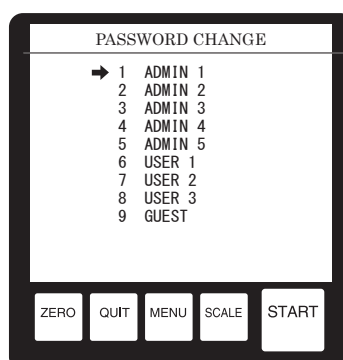
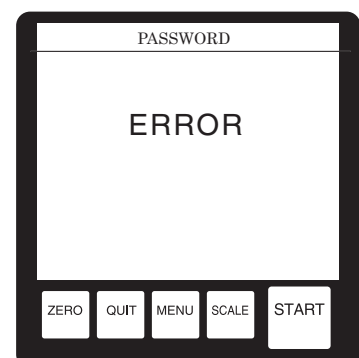

Fig.7-5
Fig.7-6
d) When "2" is entered four times, the PASSWORD CHANGE screen will be displayed automatically (Fig.7-5).
When a wrong number is entered by mistake, "ERROR" will appear on the display (Fig.7-6), which will then be replaced by the "SET UP MENU 2/2" screen automatically.
e) Move the arrow ($\rightarrow$) to "1 ADMIN 1" and press the $\leftarrow$ key (Fig.7-5).
The screen shown in Fig. 7-5 will appear on the display upon completion.
The same password must be entered twice. If you enter different passwords, "ERROR" (Fig.7-6) will appear on the display and it will return to the previous screen (Fig.7-5).
b) The "PASSWORD CHANGE" screen will be displayed (Fig.7-5).
d) The display will return to the PASSWORD CHANGE screen (Fig.7-5).